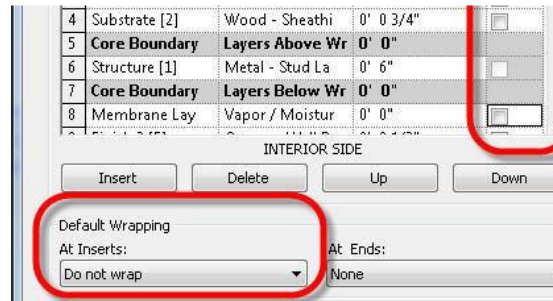

Figure 44. Establishing the wrap properties of the wall type.
4. Select the wall you just created and edit its Type properties. Edit the Structure and turn off the wrapping for all layers except for the interior and exterior finish layers. Make sure that the wrapping at inserts remains set to "Do not wrap" as shown in Figure 44.